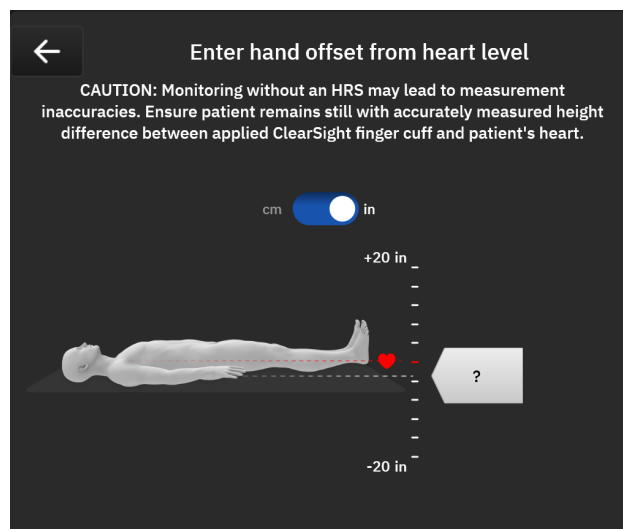

Figure 10-5: Vertical offset entry screen
- The **Zero** screen in this mode (shown in Figure 10-5 on page 202) will depict a vertical scale bar to represent the offset of the hand relative to the heart; the heart level is set at zero. A positive offset signifies a patient position where the hand is above the heart. Select the units of the scale bar: **cm** (centimeters) or **in** (inches).